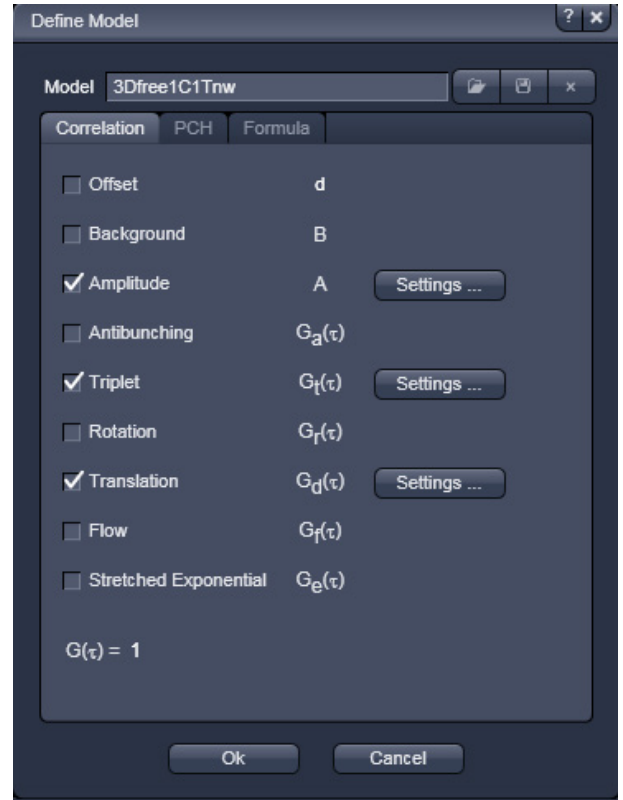

Fig. 250 Define Model panel – Correlation
- Press the **Correlation** tab to activate the options for assembling a correlation model (Fig. 250). Press any other tab to leave the panel.
- You can load a pre-defined model from the **Model** drop down menu. Its name will than be displayed in the **Model** display box (Fig. 250).